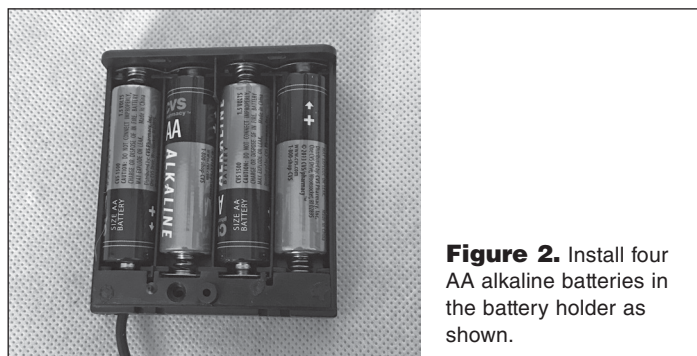

Figure 2. Install four AA alkaline batteries in the battery holder as shown.
1. The motor drive is powered by four AA alkaline batteries (not included), which you must place in the battery holder (B) prior to use (**Figure 2**). Make sure the power switch on the bottom of the battery holder is in the OFF position. Remove the battery holder cover and insert the batteries as indicated inside the battery compartment. Then slide the cover back in place.